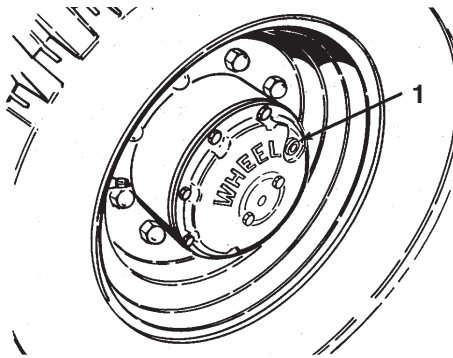

Figure 54
1. With machine on level surface, position wheel so the check/drain plug is at either three or nine o'clock position (Fig. 54).
3. When oil has drained, position wheel so plug hole is at three or nine o'clock position (Fig. 54).